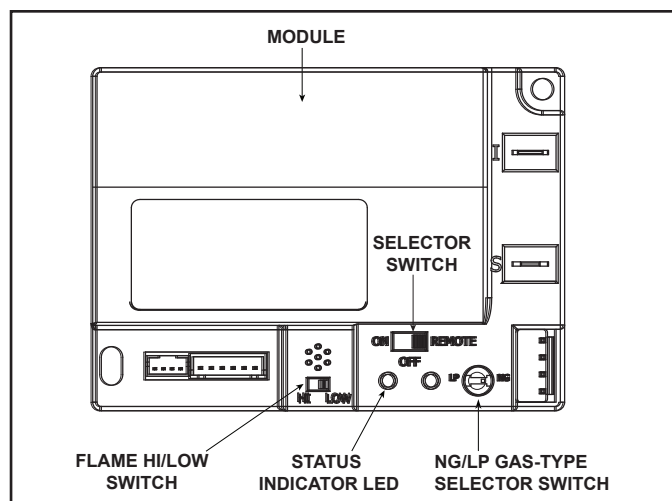

Figure 8.3 Control Module
1. The control module has an ON/OFF/REMOTE selector switch that must be set. See Figure 8.3.
2. If using a wired wall switch with the module in REMOTE mode, the flame output can be adjusted with the HI/LO selector switch on the module. See Figure 8.3. Note that the flame HI/LO selector switch will become inactive once a remote control (RC300) is programmed to the control module. Note that the control module will always ignite the fireplace on HI and remain so for the initial 10 seconds of operation. If the HI/LO is switched to the LO position, the flame output will automatically drop to the lowest setting after the flame has been established for 10 sec. After this 10 second period, the flame can be adjusted from HI to LO with the switch.
- Locate the module selector switch. (See Figure 8.3).
- Wait five (5) minutes to allow possible accumulated gas to clear.